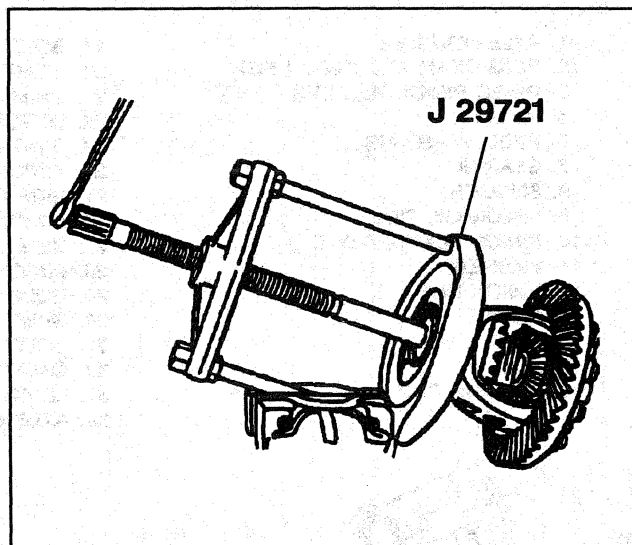

Figure 5—Removing the Differential Side Bearings
9. Bearings using J 8107-3, J 29721, and J 29721-70 (Figure 5).